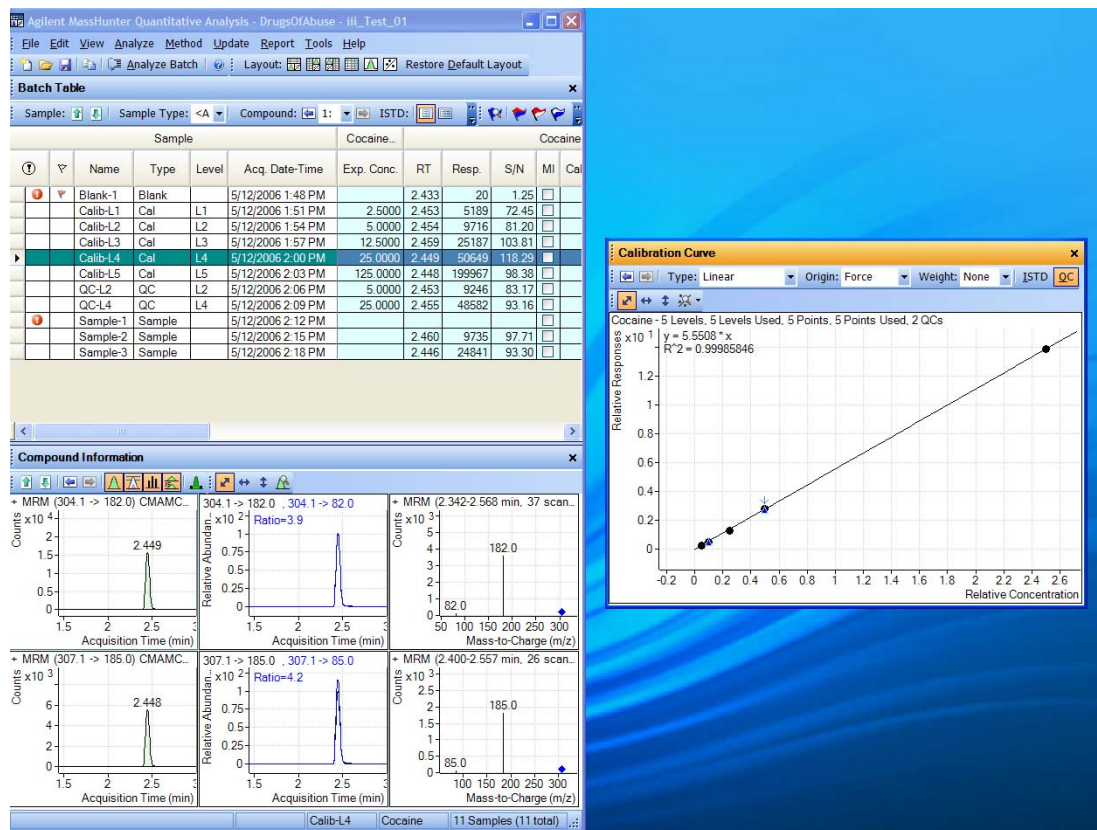

Figure 10 Resized window
- f Resize the windows to match the layout in **Figure 10**.